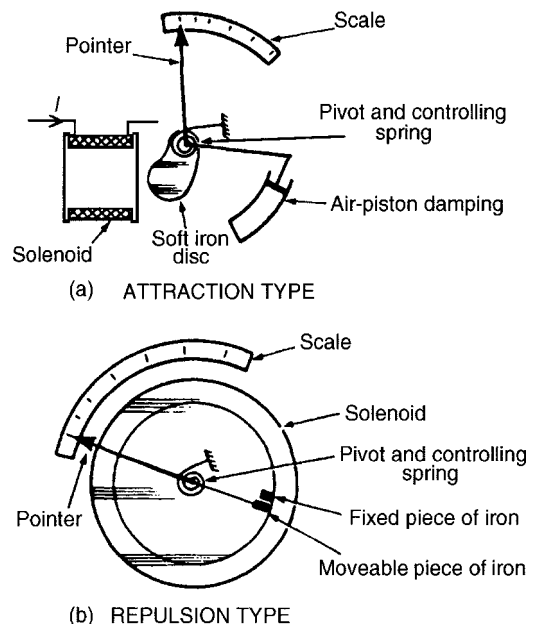

Figure 10.2
- An **attraction type** of moving-iron instrument is shown diagrammatically in Fig. 10.2(a). When current flows in the solenoid, a pivoted soft-iron disc is attracted towards the solenoid and the movement causes a pointer to move across a scale.
- In the **repulsion type** moving-iron instrument shown diagrammatically in Fig. 10.2(b), two pieces of iron are placed inside the solenoid, one being fixed, and the other attached to the spindle carrying the pointer. When current passes through the solenoid, the two pieces of iron are magnetized in the same direction and therefore repel each other. The pointer thus moves across the scale. The force moving the pointer is, in each type, proportional to I^2 and because of this the direction of